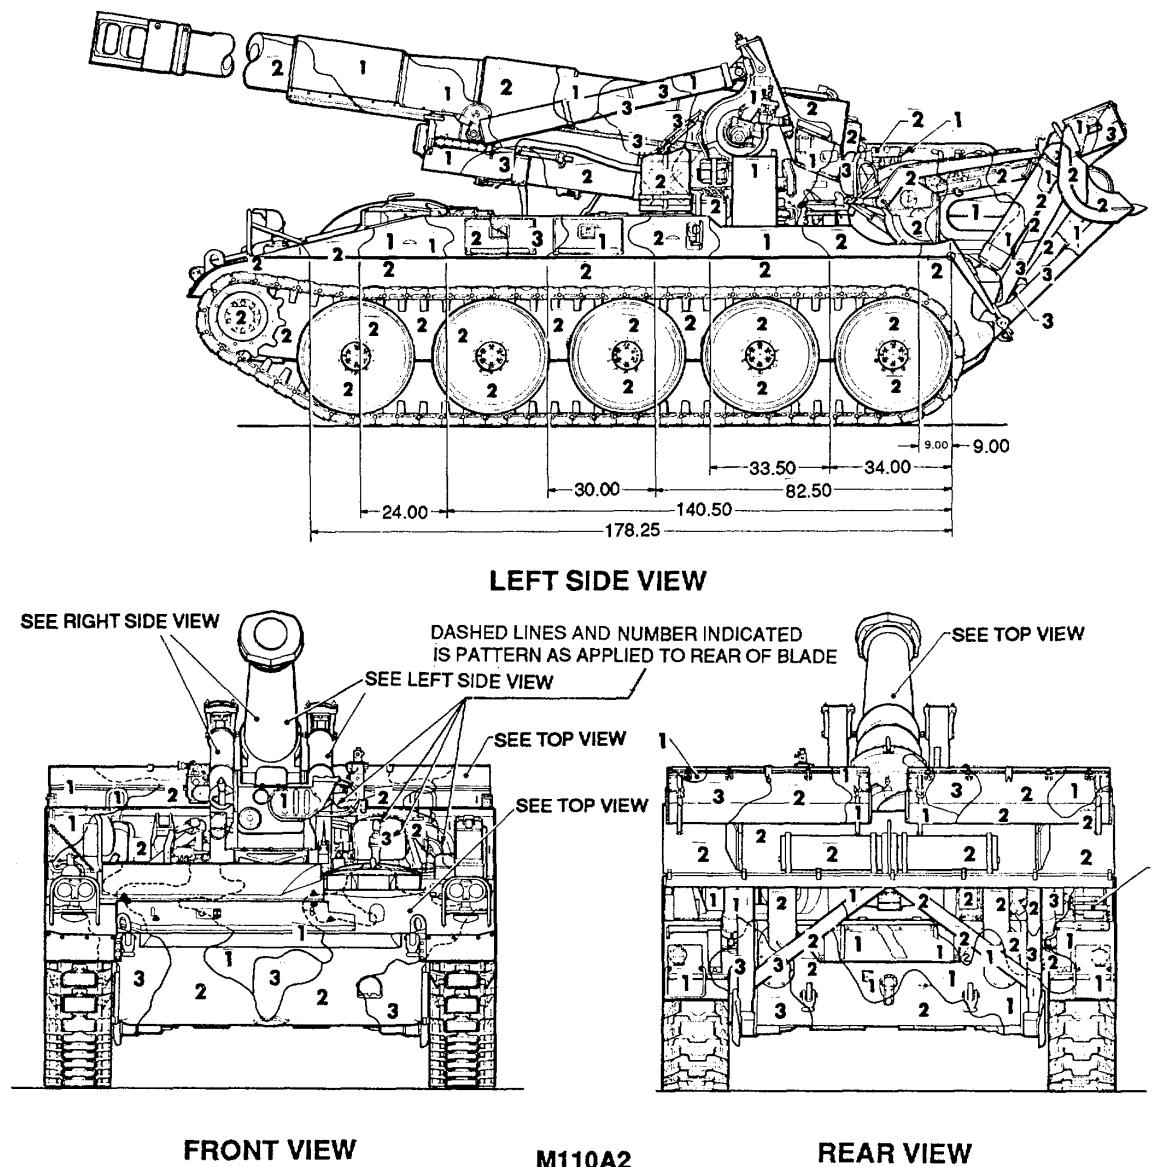

Figure 107. Howitzer, self-propelled: 8-inch, M110A2. (2 of 2)
**TOP VIEW****M110A2****RIGHT SIDE VIEW***Figure 107. Howitzer, self-propelled: 8-inch, M110A2. (1 of 2)*